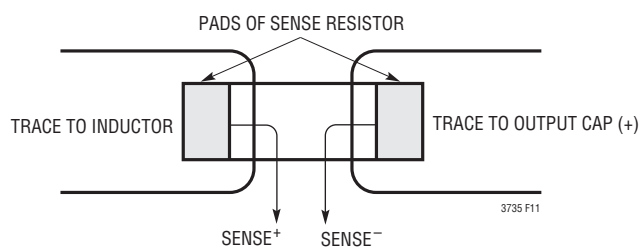

Figure 11. Proper Current Sense Connections
3) Are the SENSE– and SENSE+ leads routed together with minimum PC trace spacing? The filter capacitors between SENSE+ and SENSE– pin pairs should be as close as possible to the LTC3735. Ensure accurate current sensing with Kelvin connections at the current sense resistor. See Figure 11.